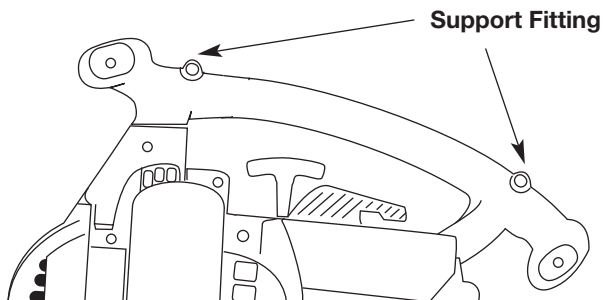

Fig. 7
4. Attach the metal clip of the shoulder harness to either support fitting on top of the handle (Fig. 7).